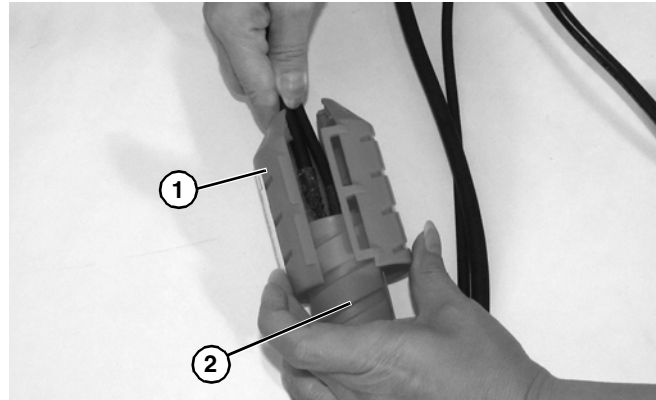

Figure 21
2. Remove outer cord cover (**Figure 21, item 1**) from inner cord cover (**Figure 21, item 2**).